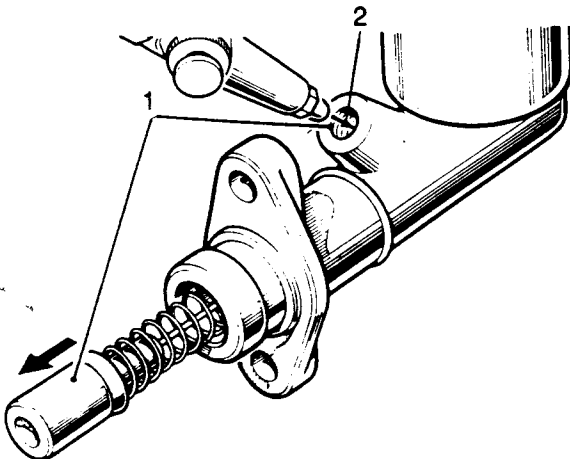

Fig H3.18
- (4) Refer to Fig H3.18. Withdraw the piston assembly (1). If necessary apply a low air pressure to the fluid outlet port (2) to expel the piston.